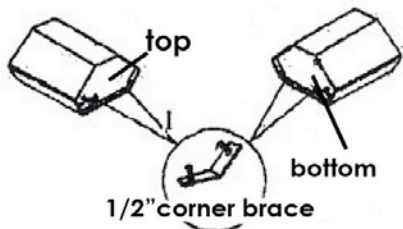

Figure 9
6. Installing the corner braces (Figure 9): Place the corner braces on each top front corner and bottom front corner of the cabinet and secure them with 1/2" corner brace screws.